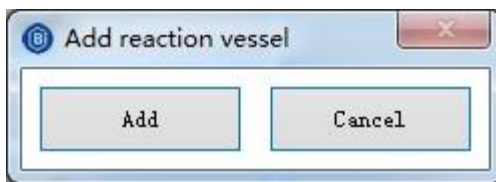

Figure. 8.8.1 Adding reaction vessels
- Select **Start-up** and click **Add** in the pop-up window, as shown in Figure 8.8.1.